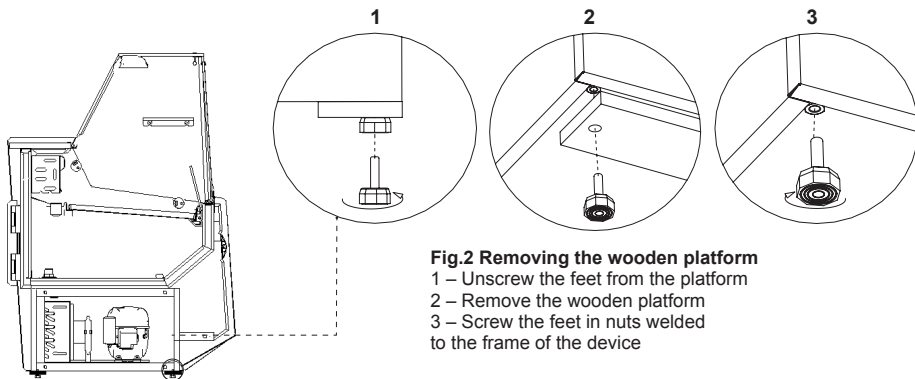

Fig.2 Removing the wooden platform
- Unpack the device and remove the wooden platform from the basis (does not concern moving devices) Fig.2 (p.14)